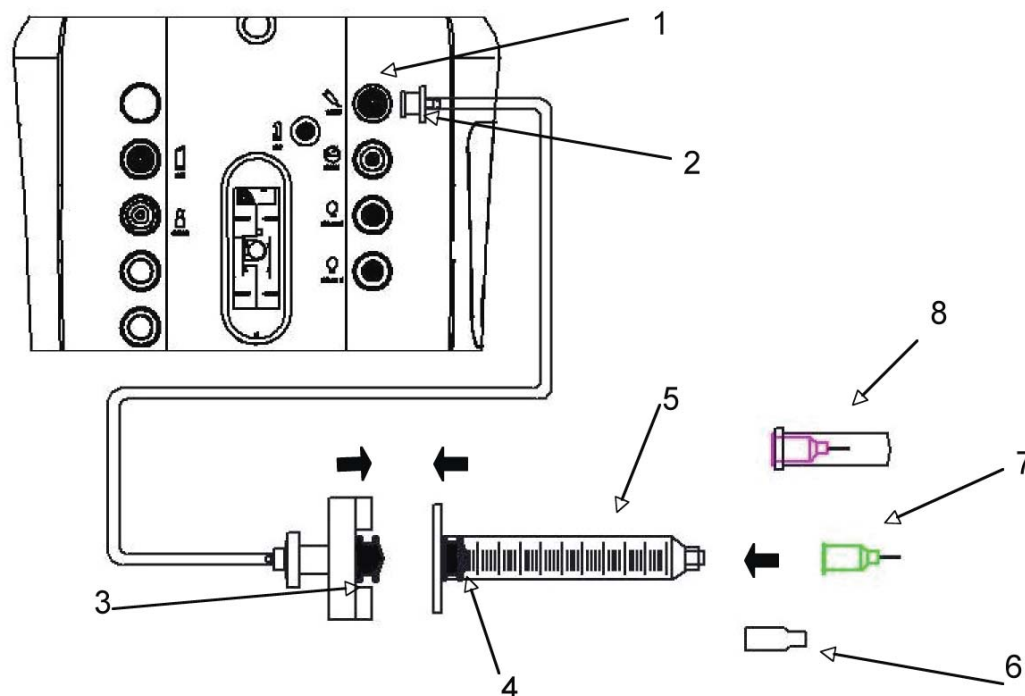

Figure 4.17. Viscous Fluid Injection Setup.
3. Connect the syringe coupler of the Viscous Fluid tubing to the syringe filled with silicone oil. Twist the coupler to lock it securely to the syringe. (Refer to Figure 4.17).